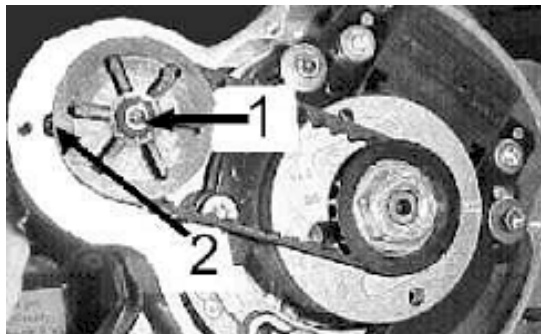

Figure 41
9. Stick a 3mm hex key in the water pump shaft cross hole, and remove belt retainer screw using a 4mm hex key. (Figure 41 - item 1)
11. Remove bearing retainer screw using a 3mm hex key. (Figure 41 – item 2)